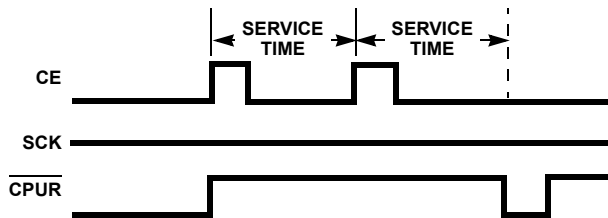

FIGURE 11. WATCHDOG OPERATION WAVEFORMS
3. Watchdog Reset (actually a non-transfer) Figure 11.
Watchdog Reset (See Figure 11)